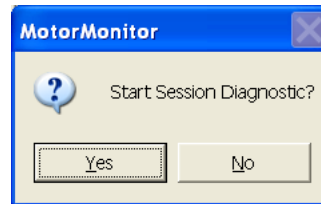

Figure 2-6. Start Session Diagnostics
14. Enter the desired file name and then click on **Save**. You will be prompted as shown in Figure 2-6 to start the session. Click on **Yes**.